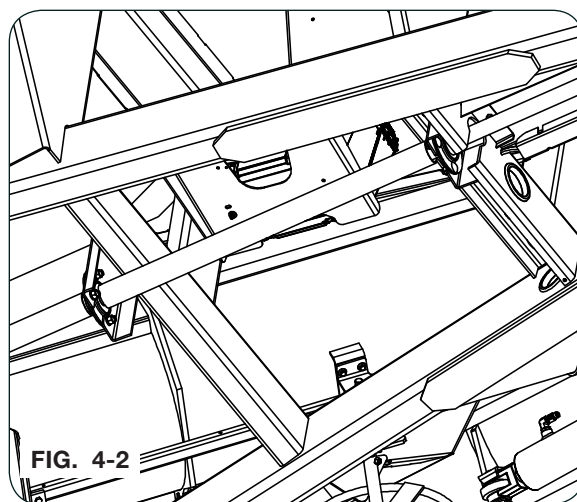

FIG. 4-2
3. Remove the 1/2" carriage bolts (9388-103), flange nuts (9394-010), and lock washers (9404-025) holding the flangette bearings. Keep hardware. (Fig. 4-2).